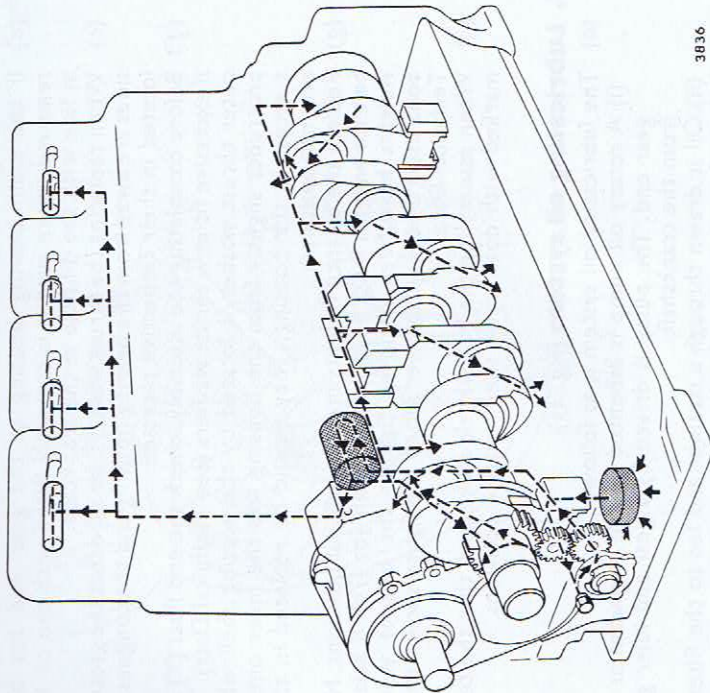

Fig. 11
- (e) When replacing the thrust washers, be sure that the grooved sides are away from the bearing housing and the tongues (C) located in their respective recesses.
- (f) Before completing the assembly, check the end float (Y) and if excessive fit new thrust washers (see Technical Data). The outer thrust washer is located by the bearing shell which protrudes slightly from the housing and the inner one by a recess in the housing. They should be replaced in their original positions.
45. Lubricating oil system (Fig. 11)